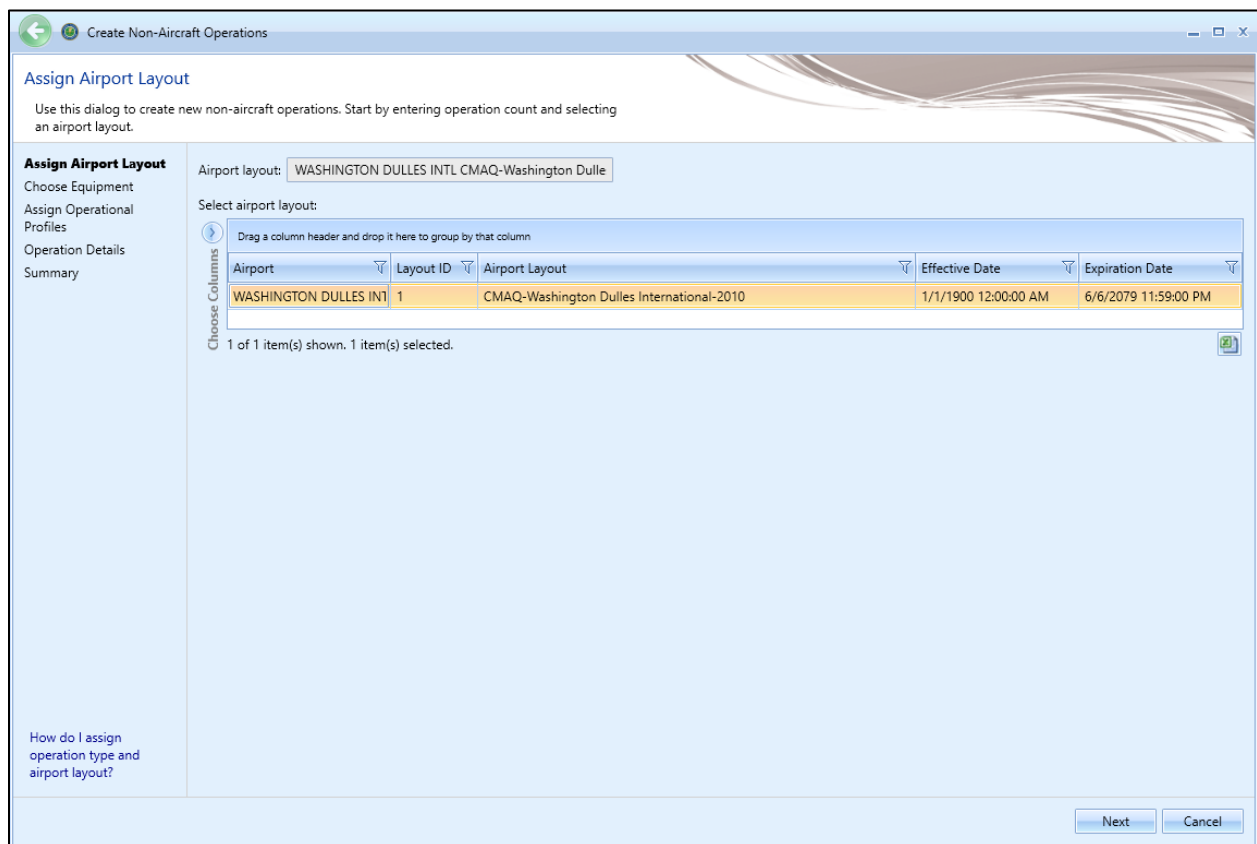

Figure 6-24 Create Non-Aircraft Operation – Assign Airport Layout
2. In the *Non-Aircraft Actions* ribbon group, click *New* to open the *Create Non-Aircraft Operations* wizard (Figure 6-24).
The airport layout is assigned in this step (Figure 6-24). This step is the same for both single and bulk operation creation.